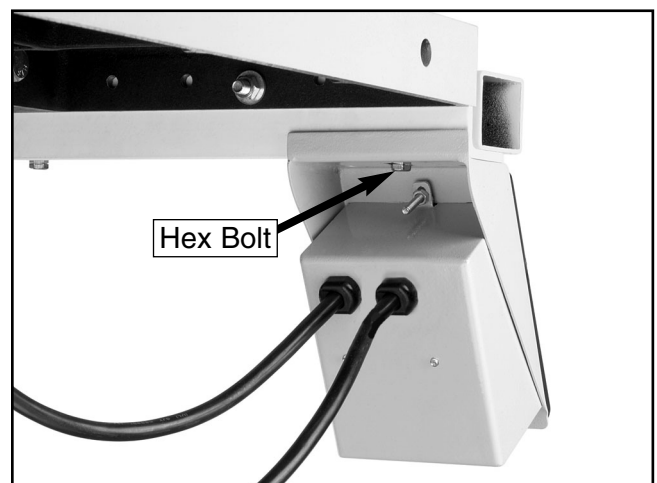

Figure 28. Installed switch.
2. Using a 10mm wrench, secure the switch to the fence rail with the hex bolt (Figure 28) removed in step 1.